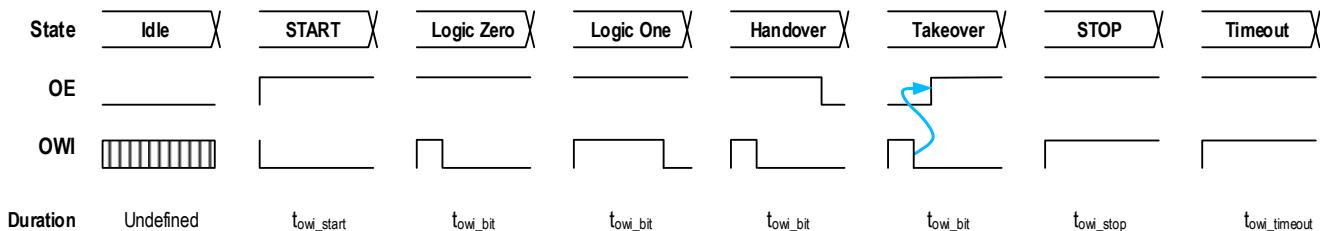

Figure 4. OWI ZMID4200 Protocol Elements
Figure 4 illustrates these ZMID4200 OWI elements with the associated output enable (OE) and OWI signals. Note that Figure 4 is not to scale. The actual timings are specified in section 3.